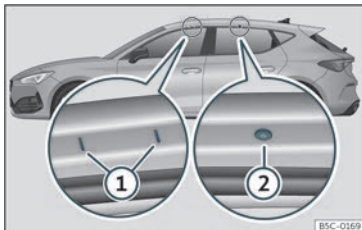

Fig. 135 Mounting points for the roof bars for the roof rack (Leon).
The front and rear attachment points ① and ② are only visible when the doors are open >>> **Fig. 135**.